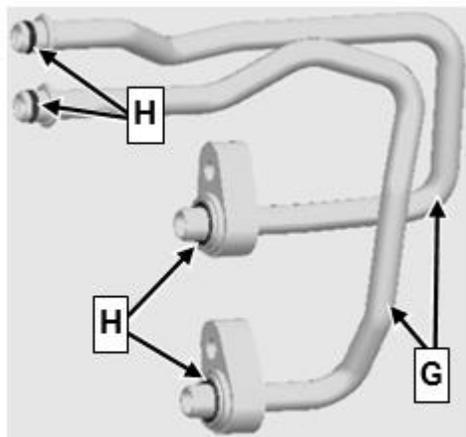

Figure 4
9. Replace sealing rings (**H, Figure 4**) of refrigerant lines (**G, Figure 4**).